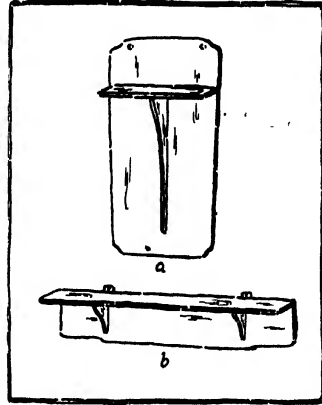

Fig. 276. Wall Brackets, Double-Hung: *a*. Single Support. *b*. Double Support.
*Wall Brackets.* (1) There are three essential parts, the shelf, the support or supports, and the back: the shelf to hold the articles, the support to hold up the shelf, and the back to hold all together, Fig. 276, *a*. The grain of the wood in the shelf should run left and right, not forward and back, because thus it rests on the support in such a way as not to break
easily, and it also acts as a stiffener for the back. In case the back extends above the shelf, as in Fig. 276, *a*, the shelf can be secured firmly to the back, since there is side grain in which to drive nails or screws. As to the direction of the grain of the support and the back, this should run in the direction of the largest dimension of each. Where the back is long horizontally, for security in hanging, it is better to have two supports.\*